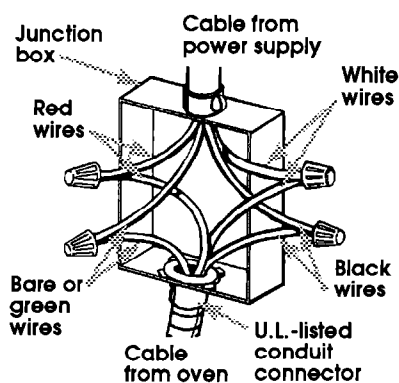

Figure 2
4. Connect the two black wires together; then the two red wires together. See Figure 2.